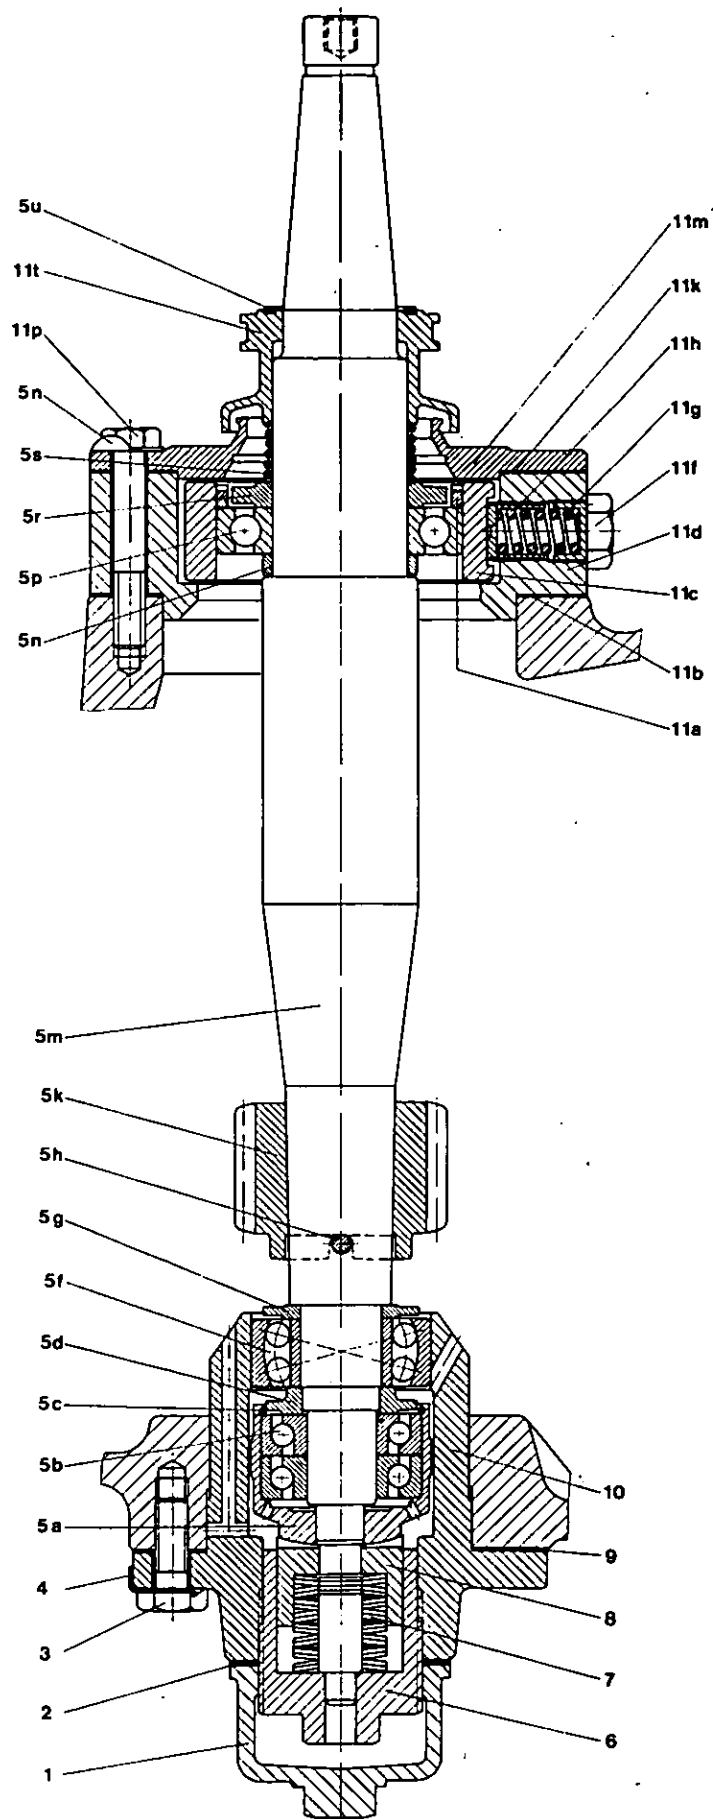

Fig. 14
** This part is included in worm wheel assembly with clamp plates, item 10, but it is also available as separate item. When the worm wheel needs replacement, the worm 5k, fig. 14, should be replaced as well (see section 8.5, No. 4).